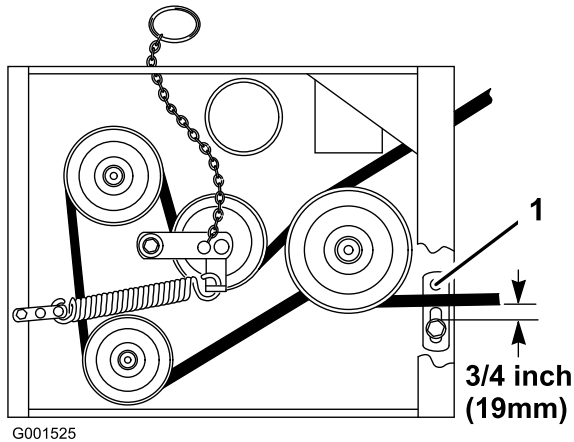

Figure 55
8. Check the belt guide under the engine frame for proper adjustment (Figure 55).
Note: The distance between the belt guide and the mower belt should be 3/4 inch (19 mm) when you engage the mower belt (Figure 55). Adjust the mower belt as necessary. The disengaged belt should not drag or fall off the pulley when the guides and belt tension are properly adjusted.